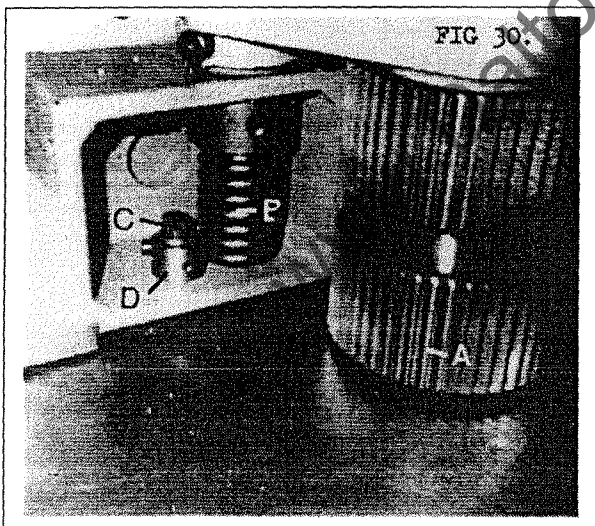

Fig 30
### To adjust spring pressure on feed roller 'A' (Fig 30)
1. Loosen caphead 'C' (FIG 30)
2. Rotate cam 'D' (FIG 30) to increase or decrease tension on spring 'B' (FIG 30).
3. Tighten caphead 'C' (FIG 30).
4. Check tension by pushing feed roller 'A' (FIG 30) back by hand.